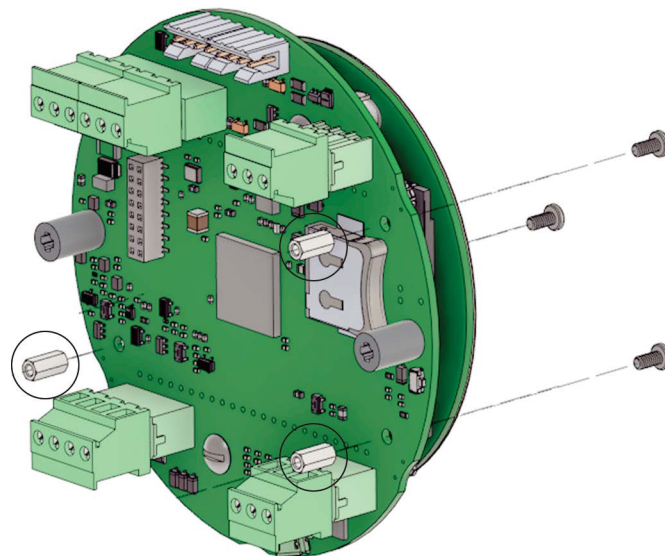

Figure A.11—Standoff installation; standoff locations are identified by three circles
4. Install the three standoffs on the main board, securing each with a screw on the back side of the main board (Figure A.11).